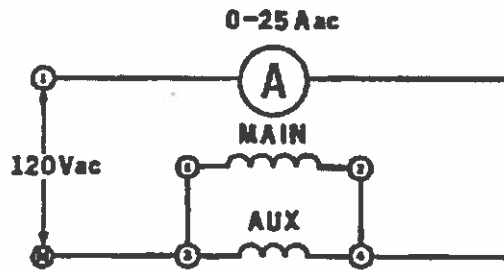

Figure 33-3.
4. a. Connect both windings in parallel, terminals 1 to 3 and 2 to 4 as shown in Figure 33-3.